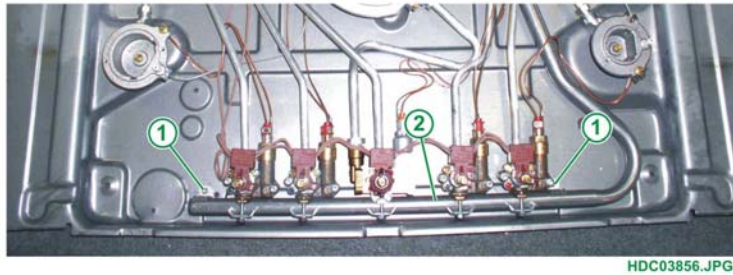

Fig. 42
2. Unscrew the 2 fixing screws on the back part of the ramp assembly (see Fig. 42).